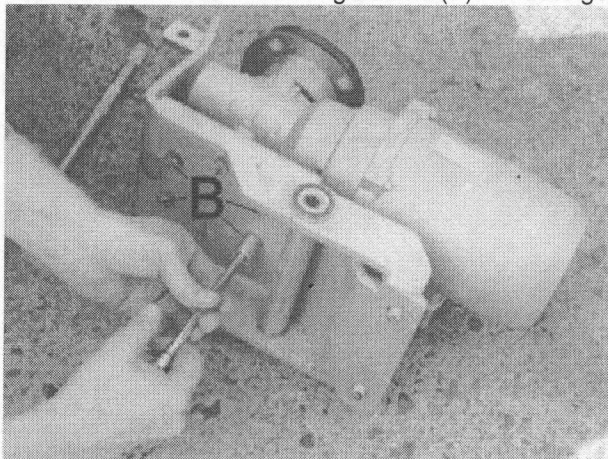

Fig. 021
6. Loosen the 6 retaining screws (B) from the gear (Fig. 021)